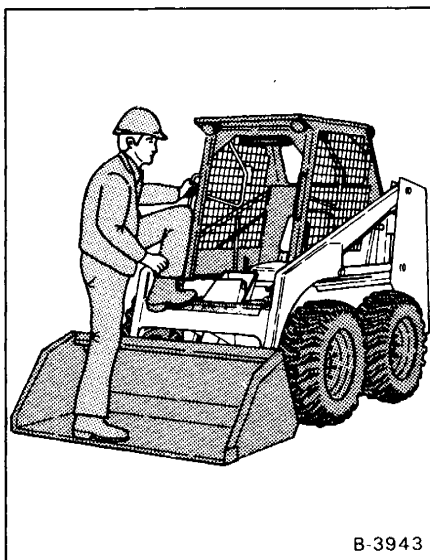

Fig. 1 Using Safety Treads & Grab Handles
1. Use the safety treads and the grab handles when you get On and Off the loader (Fig. 1).